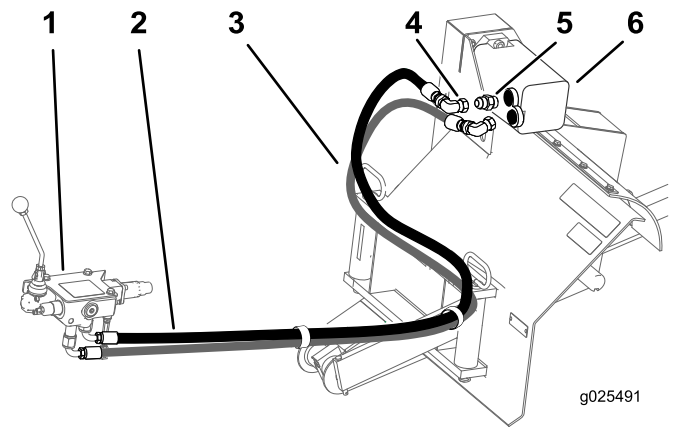

Figure 27
7. Connect 1 hose (82 inches) from the valve to the hydraulic motor assembly (Figure 27).
9. Connect the other 82 inch hose from the other fitting on the valve to the hydraulic motor assembly as shown in Figure 27.